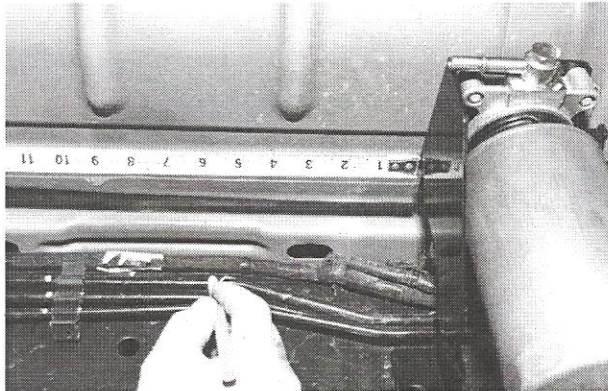
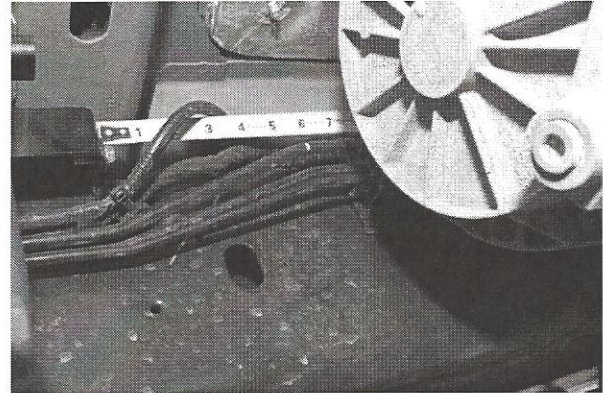

Figure 4
Figure 5
4. Mark the fuel supply line approximately 6" in front of bracket **AND** approximately 6" behind the bracket in a straight area of tubing suitable for a compression fitting. This is where the line will be cut to remove a section approximately 18" - 20" long on Pickups and 16" - 18" on Cab Chassis. (Figure 4 and Figure 5).